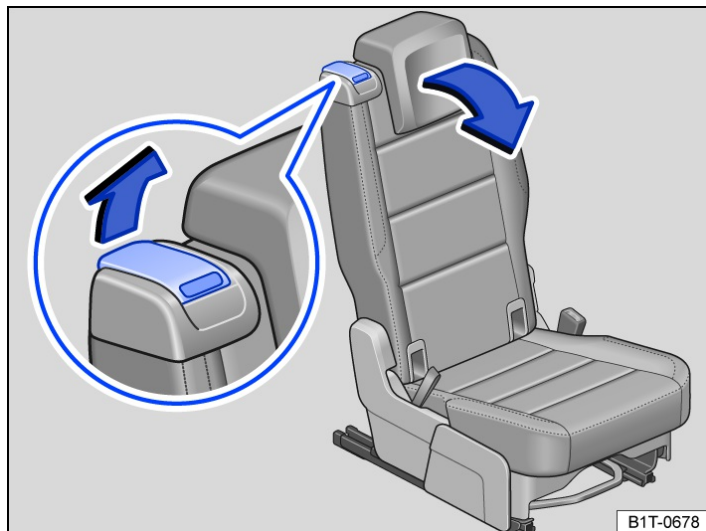

Fig. 1 Second row of seats: controls for the convenient entry function.
- Push the lever → Fig. 1 forward in the direction of the arrow and fold the rear seat backrest forward. The entire rear seat folds forward → ⚠ and can then be pushed even further forward.